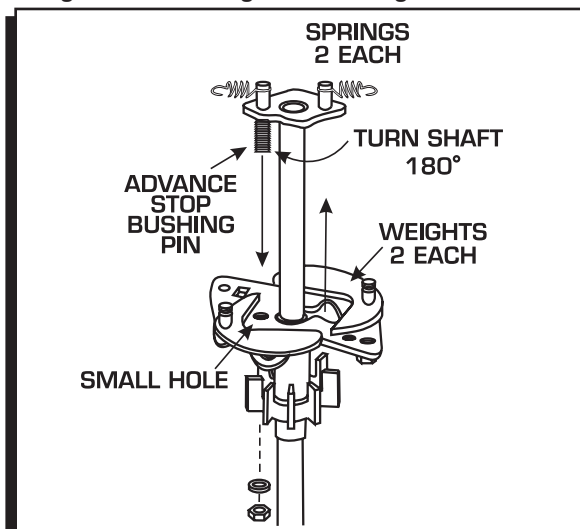

Figure 8 Locking Out the Advance.
3. Rotate the shaft 180° and insert the advance stop bushing pin into the small hole on the advance plate (Figure 8).
2. With the cap off, crank the engine until the rotor is aimed at a fixed point on the engine or firewall. Note this position by making a mark (Figure 8).